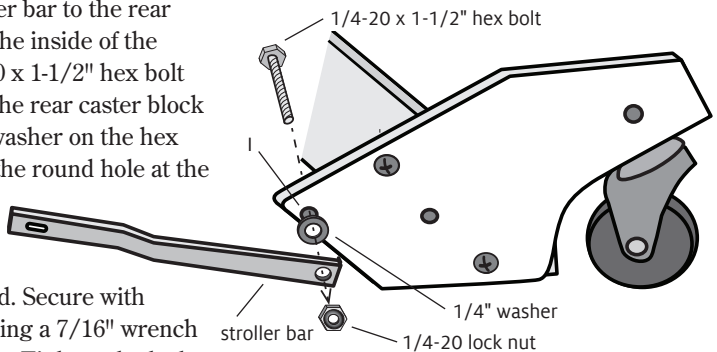

FIGURE 5: ATTACHING STROLLER BAR
8. Attach the stroller bar to the rear caster block: From the inside of the loom, insert a 1/4-20 x 1-1/2" hex bolt through hole [I] in the rear caster block (Figure 5). Place a washer on the hex bolt and then place the round hole at the end of the stroller bar over the bolt so that the jog in the bar points inward. Secure with a 1/4-20 lock nut, using a 7/16" wrench to attach the lock nut. Tighten the lock nut securely enough to hold the stroller bar in place, but loosely enough for it to pivot. Repeat for the other rear caster block. ■